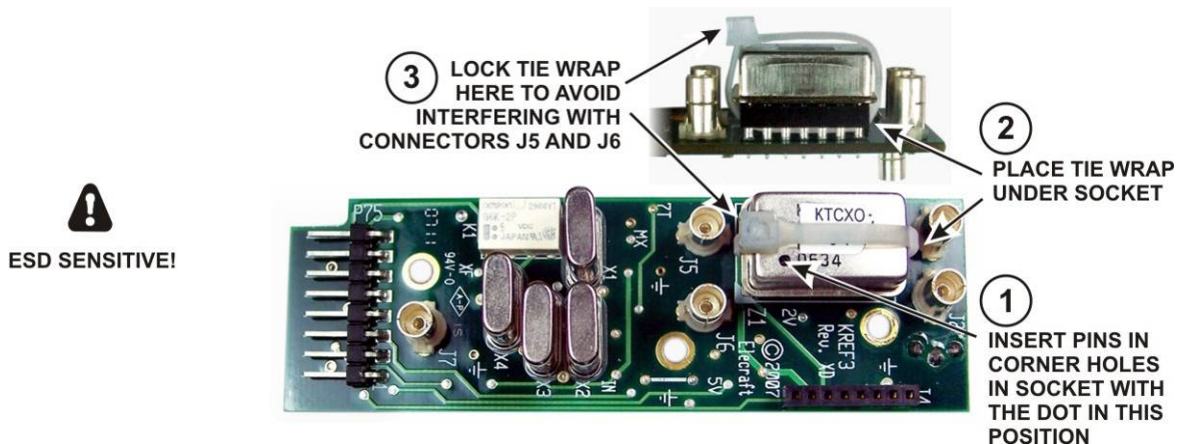

Figure 76. Mounting TCXO Module on KREF3 Board.
□ Mount the TCXO module on the KREF3 board as shown in Figure 76. Be certain the leads go into the corner holes in the socket and the black dot is oriented toward connector J6 as shown. If you have a 1ppm high-stability module, the dot may be light brown and not as close to the corner. If the module has only three leads, the missing lead will be in the corner with the dot. If you have the standard 5ppm TCXO, the bottom may be slightly above the socket when the leads are fully inserted. Tighten the tie wrap enough to ensure the oscillator so it cannot fall out but do not bend the leads.